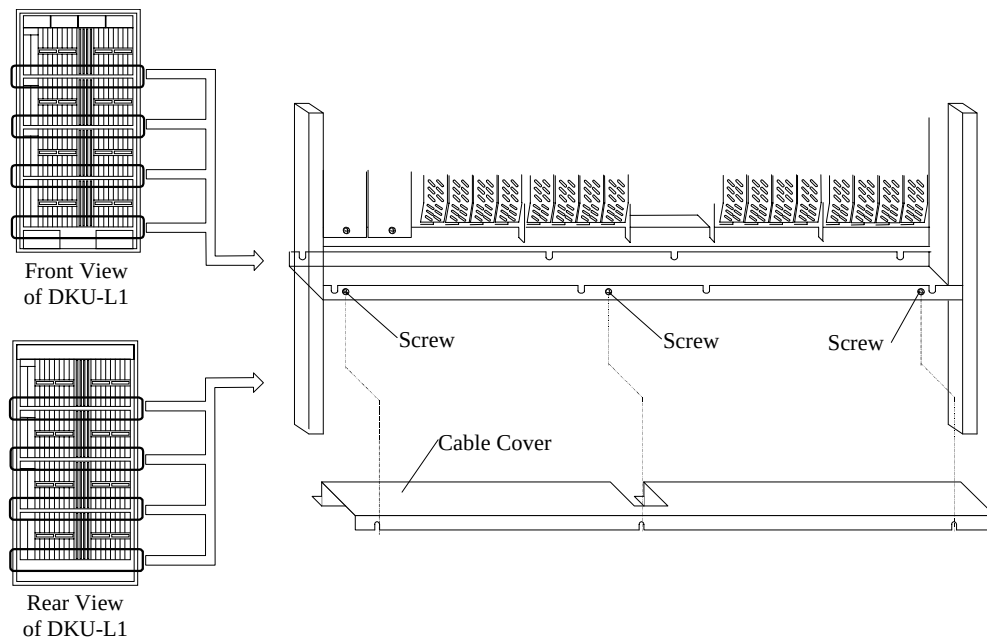

Fig. 3.11.11-2 Removal of Cable Covers
- c. Refer to Fig. 3.11.11-3 and Fig. 3.11.11-4. Connect the DEV interface cables to the sub-edges on the FSW PCBs in the HDU box.